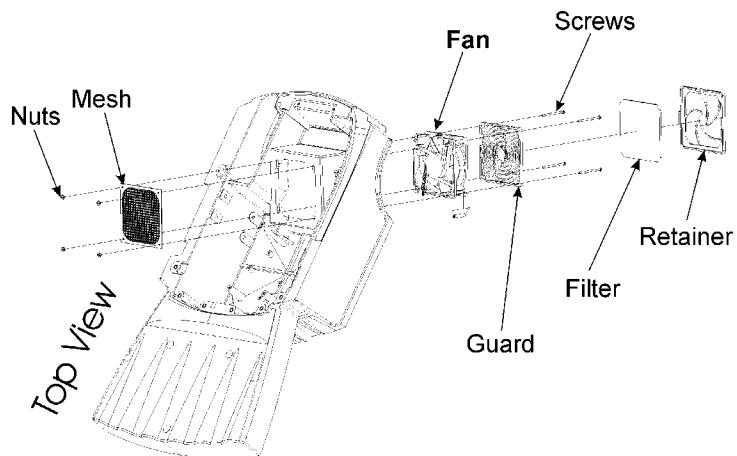

Figure 16-2. Fan Filter Location
1. Remove the fan filter by pulling out the retainer from underneath the Instrument. (See Figure 16-2.) No tools are required for filter removal.